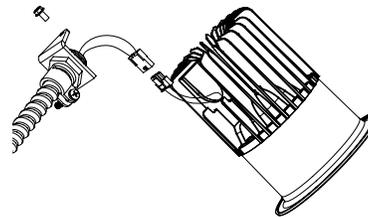

FIGURE 5
2. Fasten conduit adapter to TRIM SECTION using the screw provided (see Figure 5).
3. Fasten conduit adapter to TRIM SECTION using the screw provided (see Figure 5).